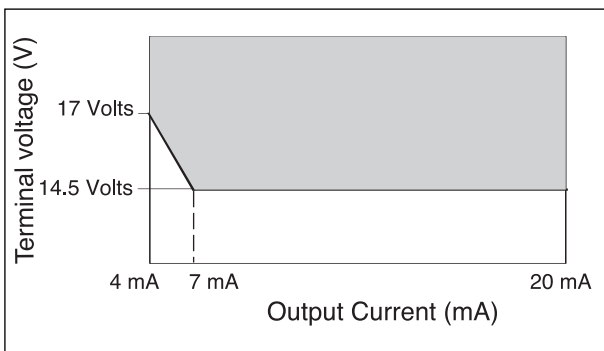

Fig.1 HART® supply voltage/ load diagram
- Note:** : The transmitter contains a switched power supply, drawing its energy from the 0-4 mA section of the signal. Consequently the 17 volt limit is applied at 4 mA. The characteristic of the unit is such that above about 7 mA on the output, the terminal voltage can drop to 14.5 volts without problem. (see fig. 1)